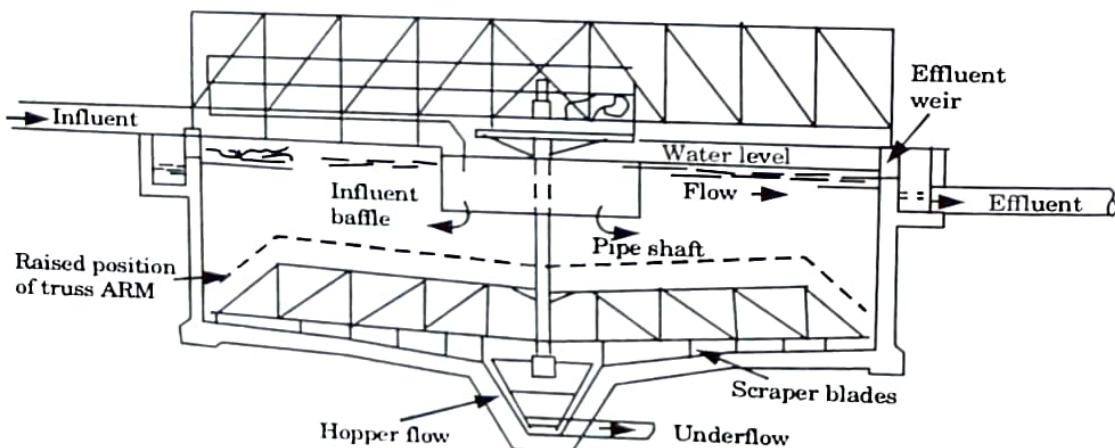

Fig. 5.19.1. Gravity sludge thickener.
3. Fig. 5.19.1 shows a typical waste sludge thickener. The tank resembles a circular clarifier except that the depth/diameter ratio is greater and the hopper bottom has a steeper slope.